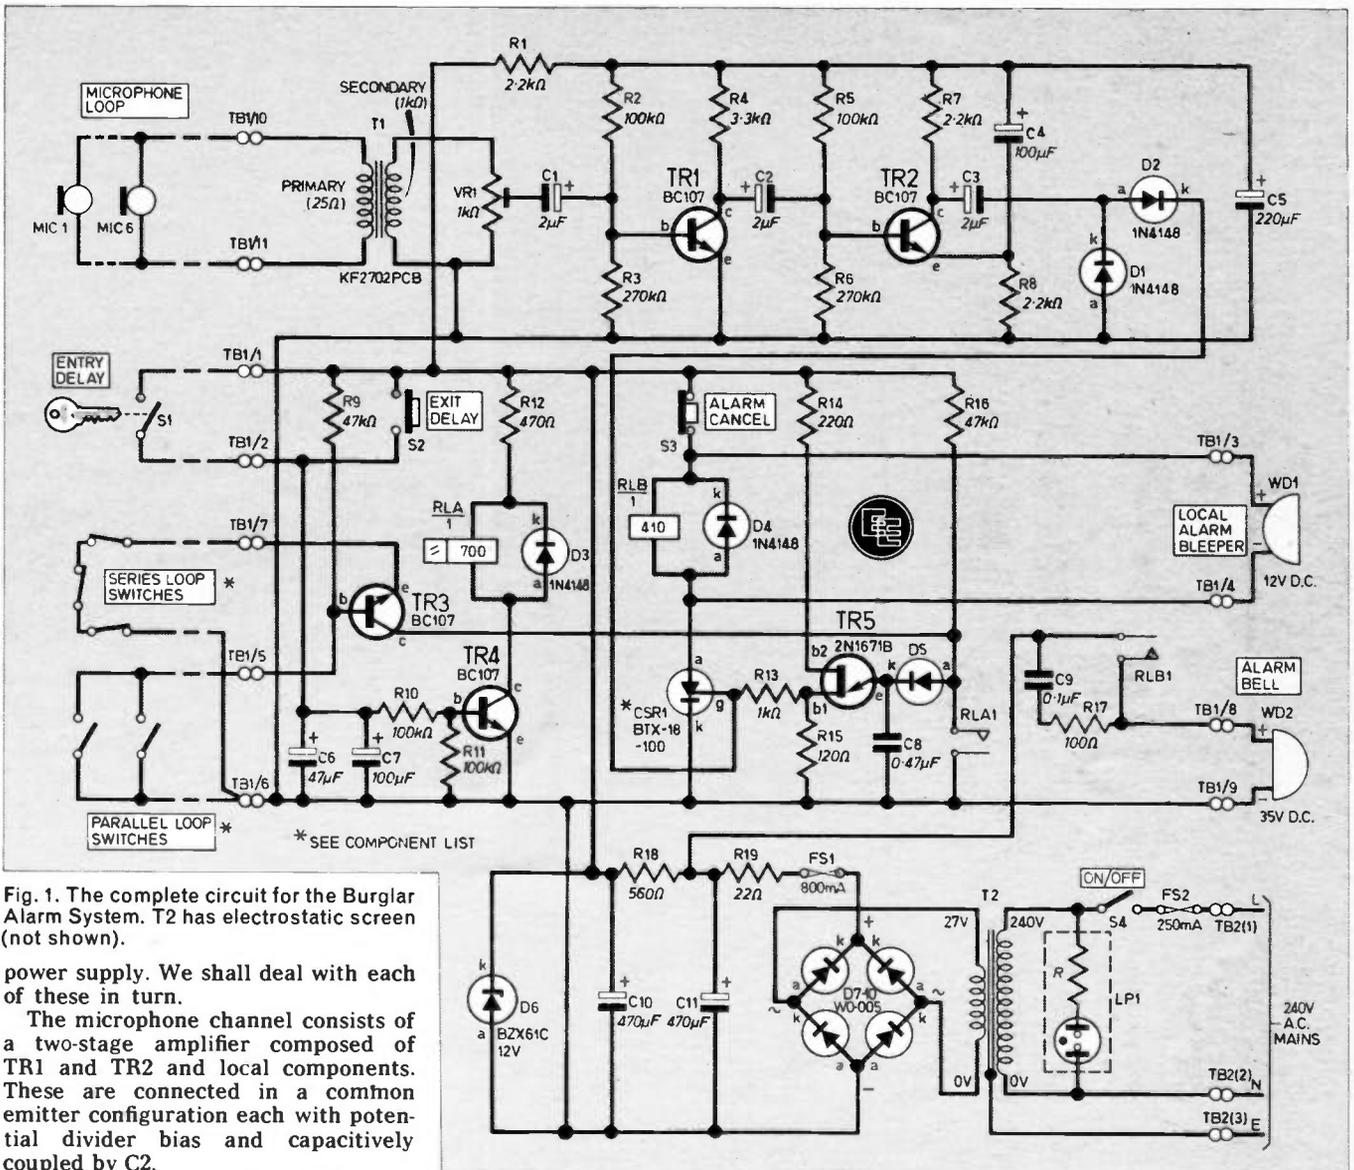

Fig. 1. The complete circuit for the Burglar Alarm System. T2 has electrostatic screen (not shown).
The complete circuit diagram for the Burglar Alarm System is shown in Fig. 1. It consists of three distinct sections: (1) microphone amplifier channel, (2) alarm control/latch, (3)
The alarm control which includes exit and entry delay is seen in the middle tier of Fig. 1.